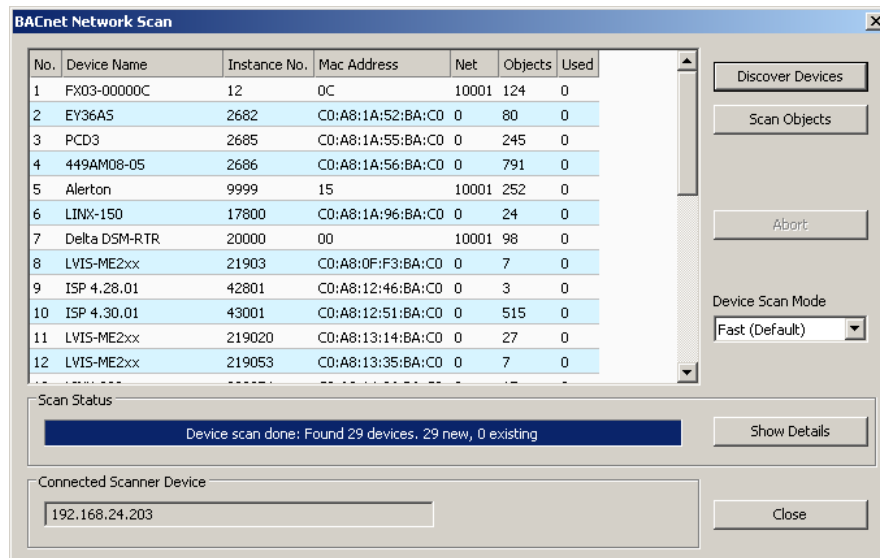

Figure 78: BACnet network scan dialog.
3. Right-click on that folder and select **Scan BACnet Network....** This opens the BACnet Network Scan dialog as shown in Figure 78.